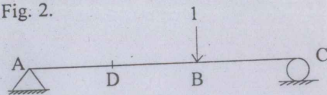

Fig. 2
- (e) State the Muller-Breslau principle. Hence draw influence line for moment at D in the beam shown in Fig. 2. 8